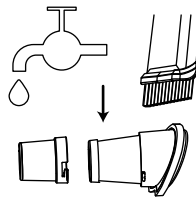

Fig. 11
4. Clean the SSL and Hepa filter under water or with a soft brush (not included). (see Fig. 11)